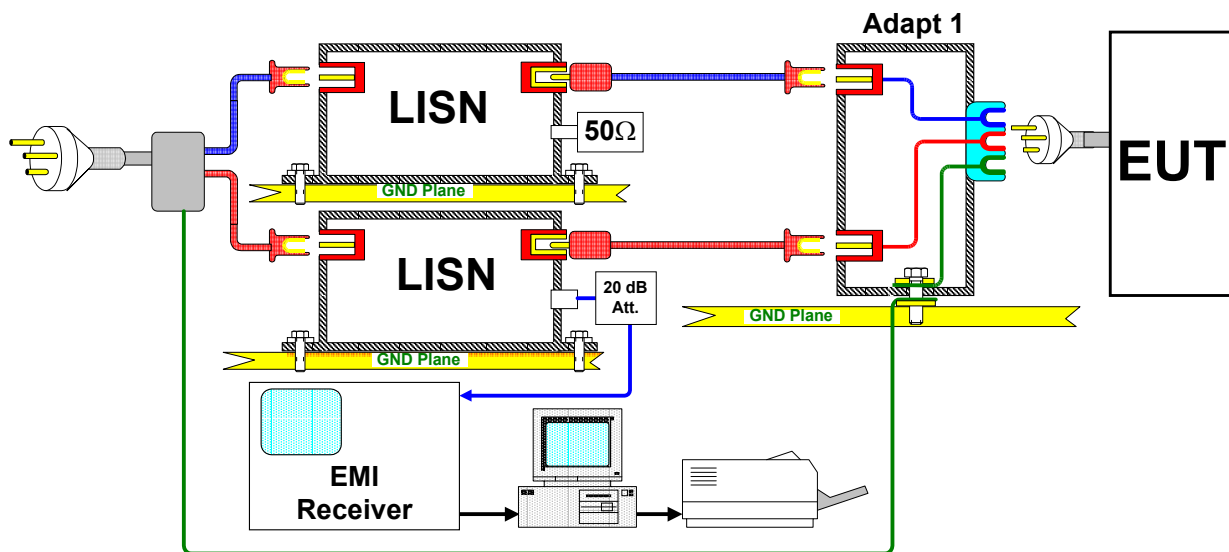

Figure CE-2
- (2) The testing setup shown in Figure CE-2.
- (2) Turn on the measurement equipment and allow sufficient time for stabilization.
- (3) Apply the calibrated signal level, which is 6 dB below the limit given in Table 1 at 500kHz and 29 MHz to the power output terminal of LISN.
- (4) Scan the spectrum analyzer for each frequency in the same manner as a normal data scan. Verify that the spectrum analyzer indicates a level within ± 3 dB of injected level. Correction factor shall be applied for LISN and 20 dB for attenuator.
- (5) E.U.T Testing. Perform emission data scan using the measurement setup shown in Figures CE-2 and CE-3.
- (6) Turn on the E.U.T to operational mode and allow sufficient time for stabilization.
- (7) Select (Phase) lead for testing.
- (8) Scan the spectrum analyzer over the applicable frequency range
- (9) Repeat (2) and (3) for (Neutral) lead.
- (10) Choose six highest emissions relative to limit and feel Table CE-3.
- (11) Perform measurements for selected frequencies using quasi-peak detector.